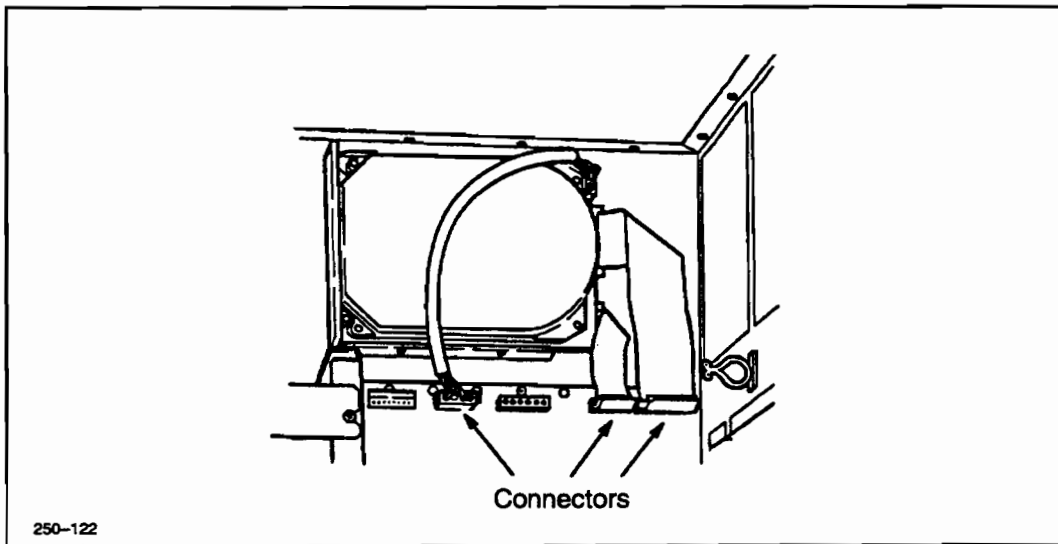

Figure 6-101. Disk Drive Connectors
4. Disconnect the disk drive connectors. See Figure 6-101.